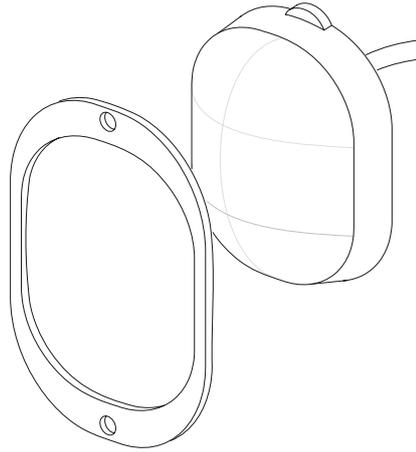

Figure 3 Cargo Area LED Fitting
13. To remove a LED fitting (Figure 3):